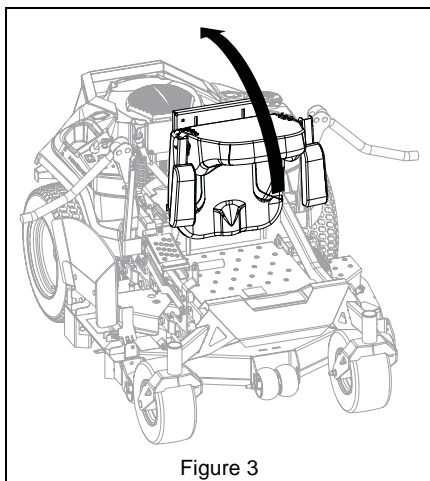

Figure 3
3. Return seat to operating position. See Figure 3.